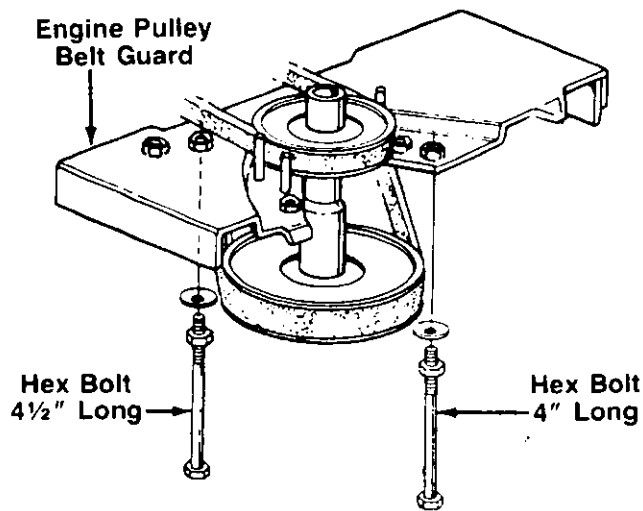

FIGURE 12.
8. Attach hex bolts 4" and 4 1/2" long to the engine pulley belt guard bracket to act as belt keepers. Assemble in the locations shown in figure 12. Be certain the belt is inside the bolts as shown.